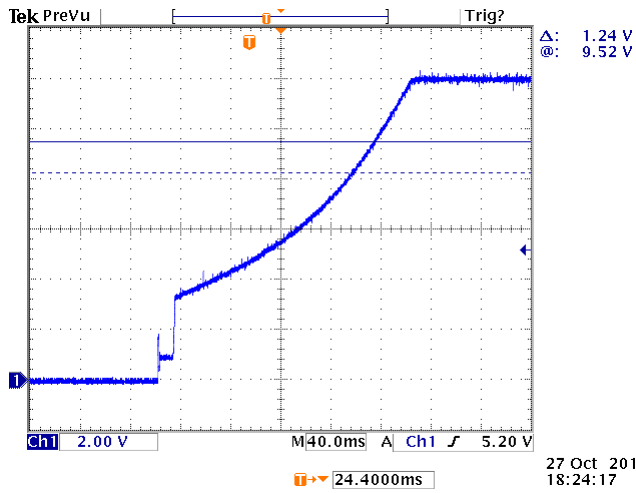

FIGURE 16.  $V_{OUT}$  DURING START-UP
Figure 16 and 17 show the soft-start and soft-stop waveforms. The active load is set to constant-current (CC) mode.